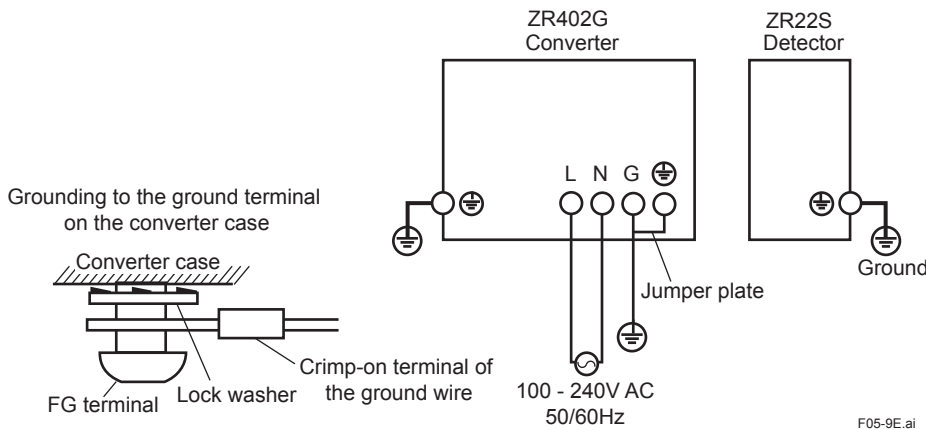

Figure 5.9 Power and Grounding wiring
- (1) Keep ground resistance to 100 Ω or less.
- (2) When the ambient temperature of the wiring installation is 75 to 150°C for the wiring of the detector, use wiring material with sufficient heat resistance.
- (3) When connecting the ground wiring to the ground terminal of the converter case, be sure that the lock washer is in contact with the case surface (see Figure 5.9.).
- (4) Ensure that the jumper plate is connected between the G terminal and the protective ground terminal of the converter.
- (5) No intermediate parts are used for the internal ground terminal of the detector. Use crimping terminal for connection to the internal ground terminal in order to avoid corrosion by high contact potentials.
- (6) In order to prevent the earthing conductor from loosening, the conductor must be secured to the terminal, tightening the screw with torque of approx. 1.2 N•m (for M4) or 2.0 N•m (for M5).
- (7) Care must be taken not to twist the conductor.